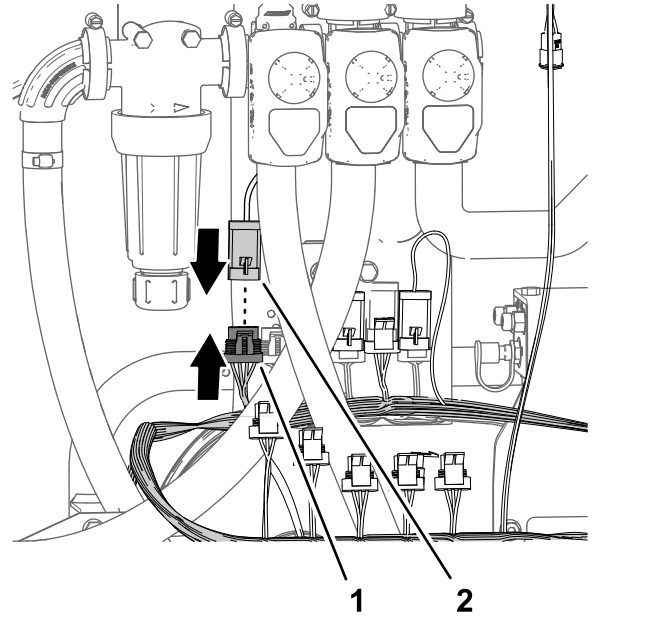

**Figure 88**
2. Connect the 3-pin connector of the 89 cm (35 inch) kit wire-harness branch labeled MASTER VALVE into the 3-socket connector of the machine wire harness labeled MASTER SPRAY VALVE (Figure 88).
3. Connect 3-pin connector of the actuator for the master-spray valve into the 3-socket connector of the 89 cm (35 inch) kit wire-harness branch labeled MASTER VALVE (Figure 88).